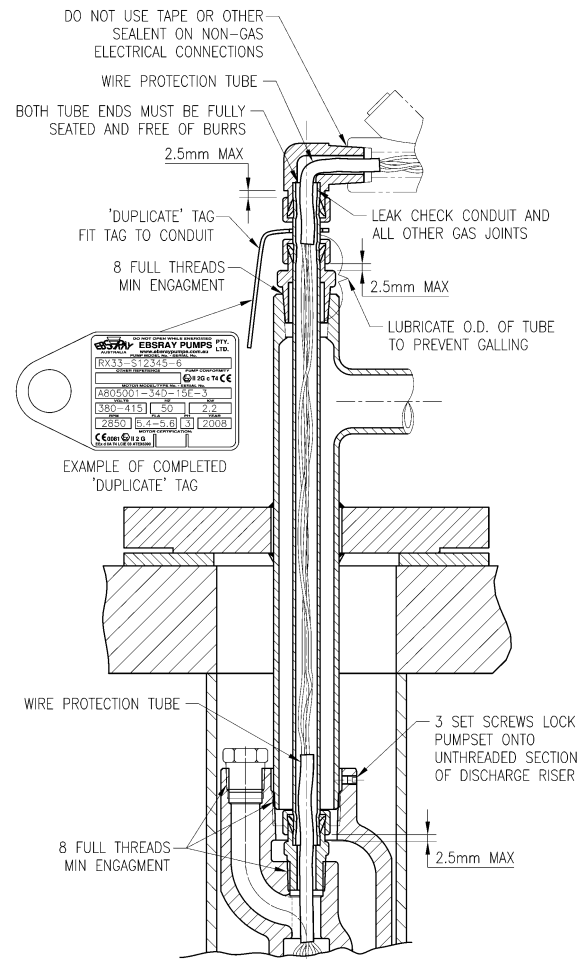

Figure 7
- b) Fit DPS to Junction Box (For Junction Boxes which are not fitted with a 1/2" NPT(F) thread, use adaptor supplied) Take care when fitting to avoid damaging electrical leads.
- e) Fit 3/4" NPT compression tube fitting to 3/4"(F) NPT side of wiring seal.
20. Fit duplicate pumpset/motor identification tag over motor leads and over conduit as shown in Figure 7
22. Slide wire protection tube half way into 3/4" NPT compression fitting. See Figure 7